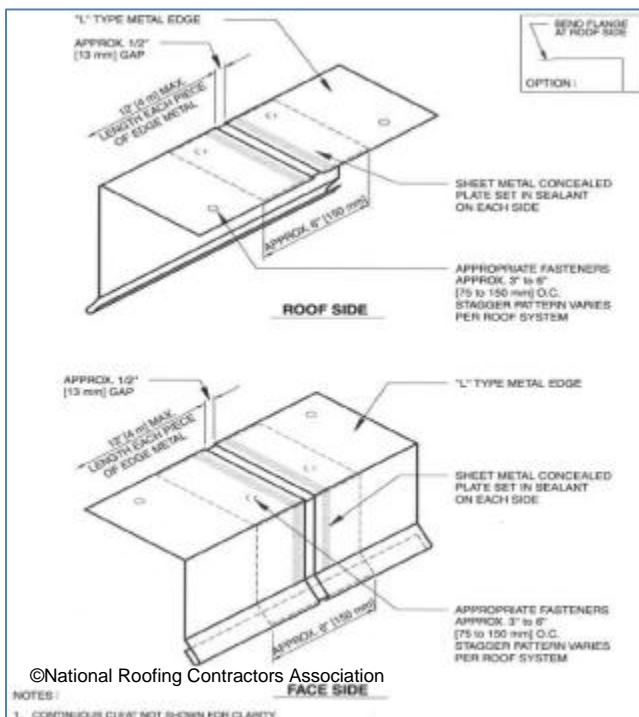

Figure 13-23
- Concealed plate joints (Figure 13-23)